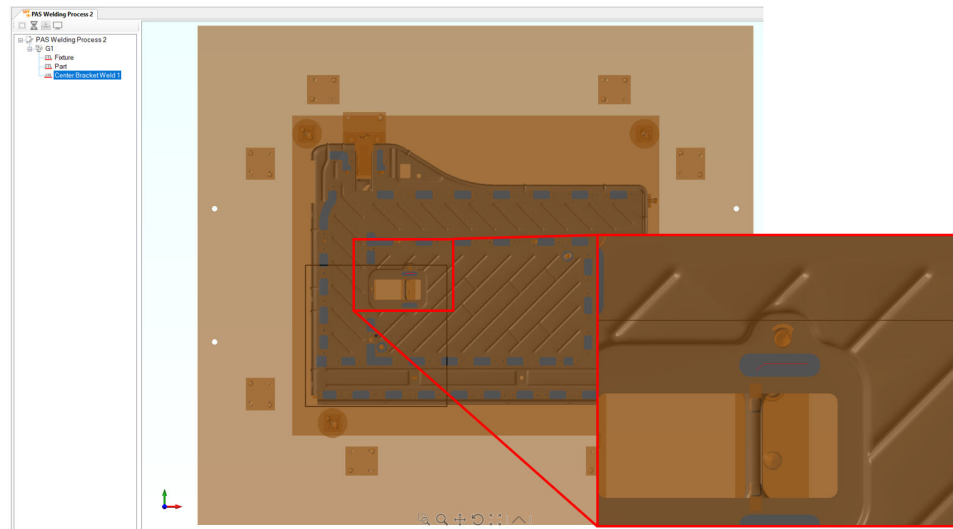

Figure 335: Positioning a Weld to the CAD Model(s)
5. Position the weld shape according to the STL model(s). See Figure 335 on page 306.